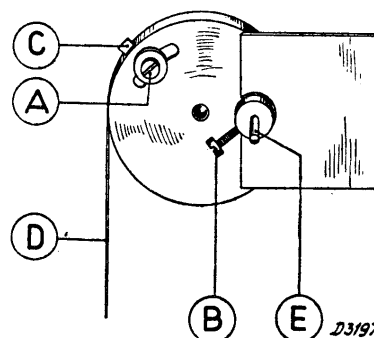

Fig. 6.
4. Loosen screw A (Fig. 6) and turn the pointer drum so that the pointer indicates exactly 510 m., holding the lug C to keep the driving cord D taut. Take care that the tuning does not alter and again tighten screw A.